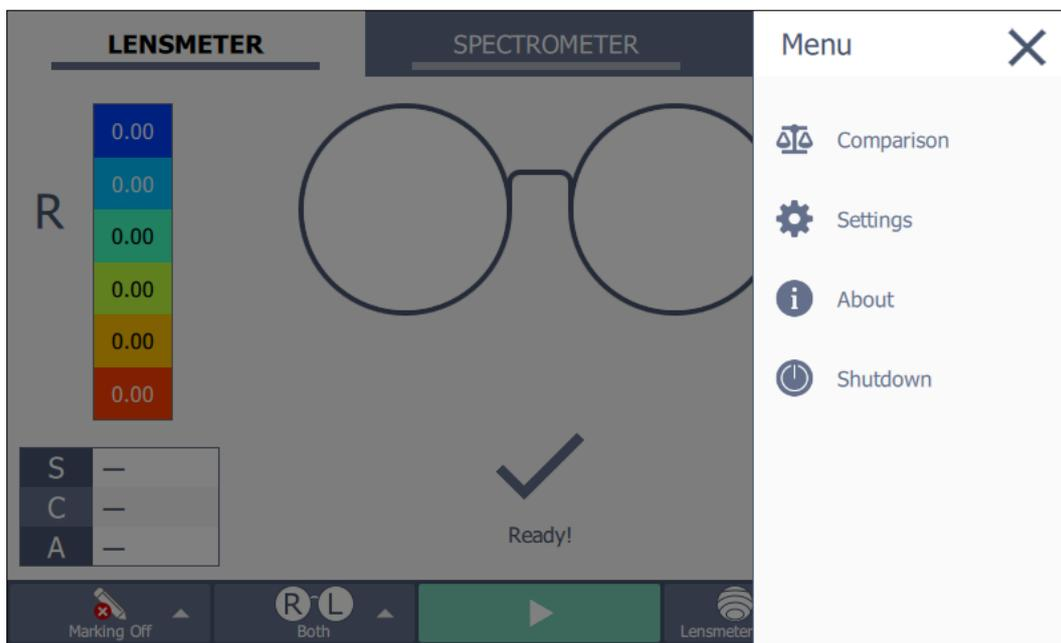

Figure 31: Option menu
- Opening the main menu (see figure 31) and then click on shutdown button
User can access to settings through the option menu in the top acquisition bar (Figure 31)